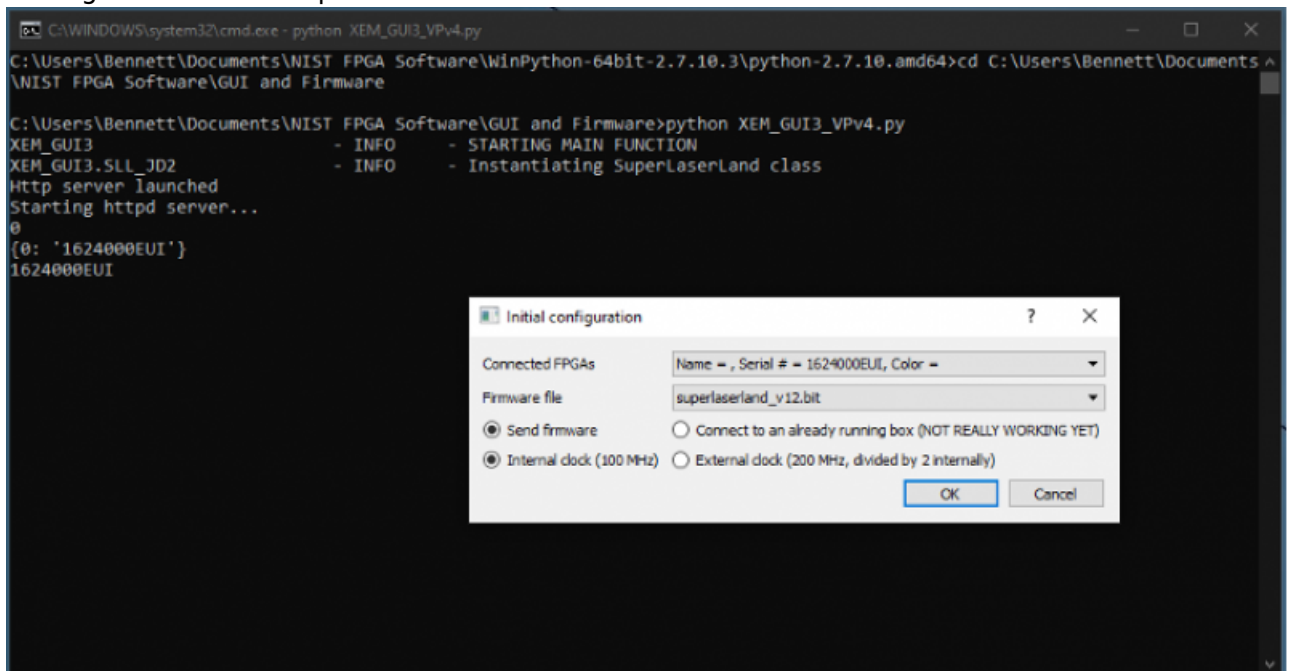

Fig. 2: FPGA GUI Start Screen
3. A start-up menu should appear (figure 2). Make sure "superlaserland_v12.bit" is selected and select an appropriate clock option: internal clock will use the FPGA's on board clock for timing, whereas external clock can be selected to allow synchronization between devices with a separate timing device. If you are unsure which to select, choose Internal Clock. Leave all other settings as default and press OK.